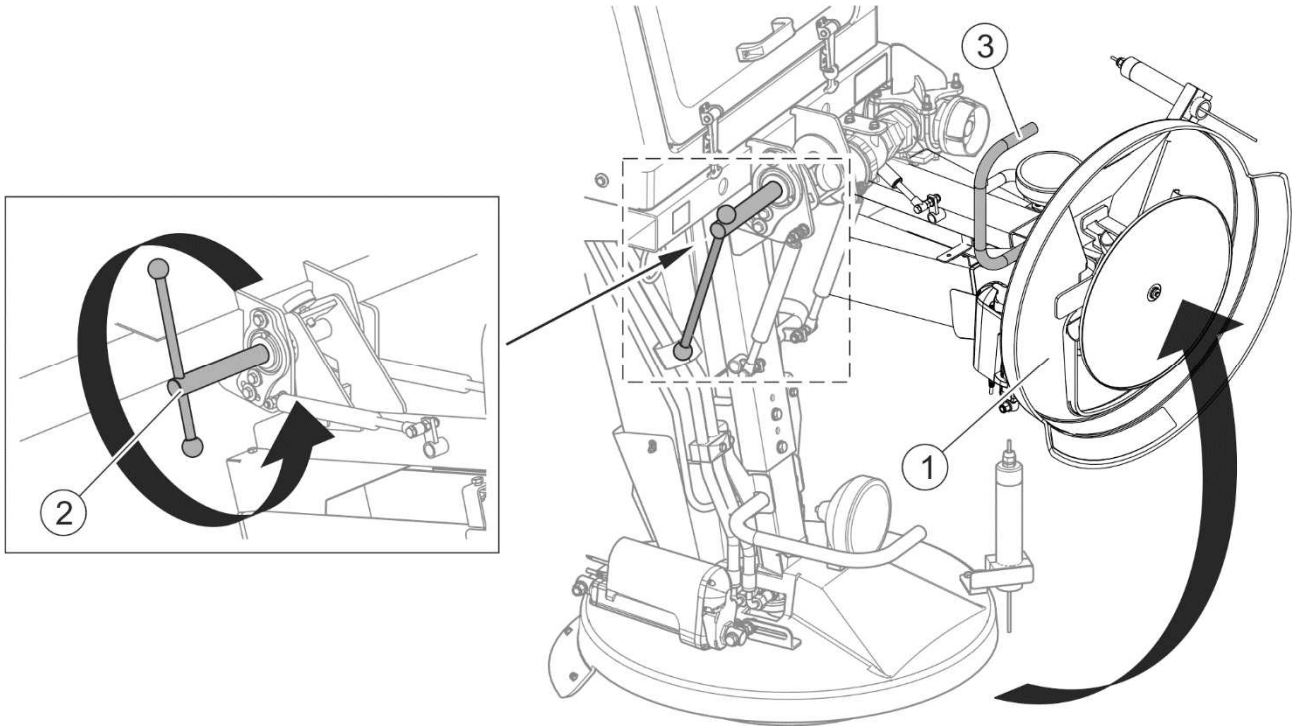

FIGURE 4.30 Raising the spreading mechanism
- raise the spreading unit and lock it in the upper position (FIGURE 4.30),
To raise the spreading mechanism for unloading (FIGURE 4.30) do the following: